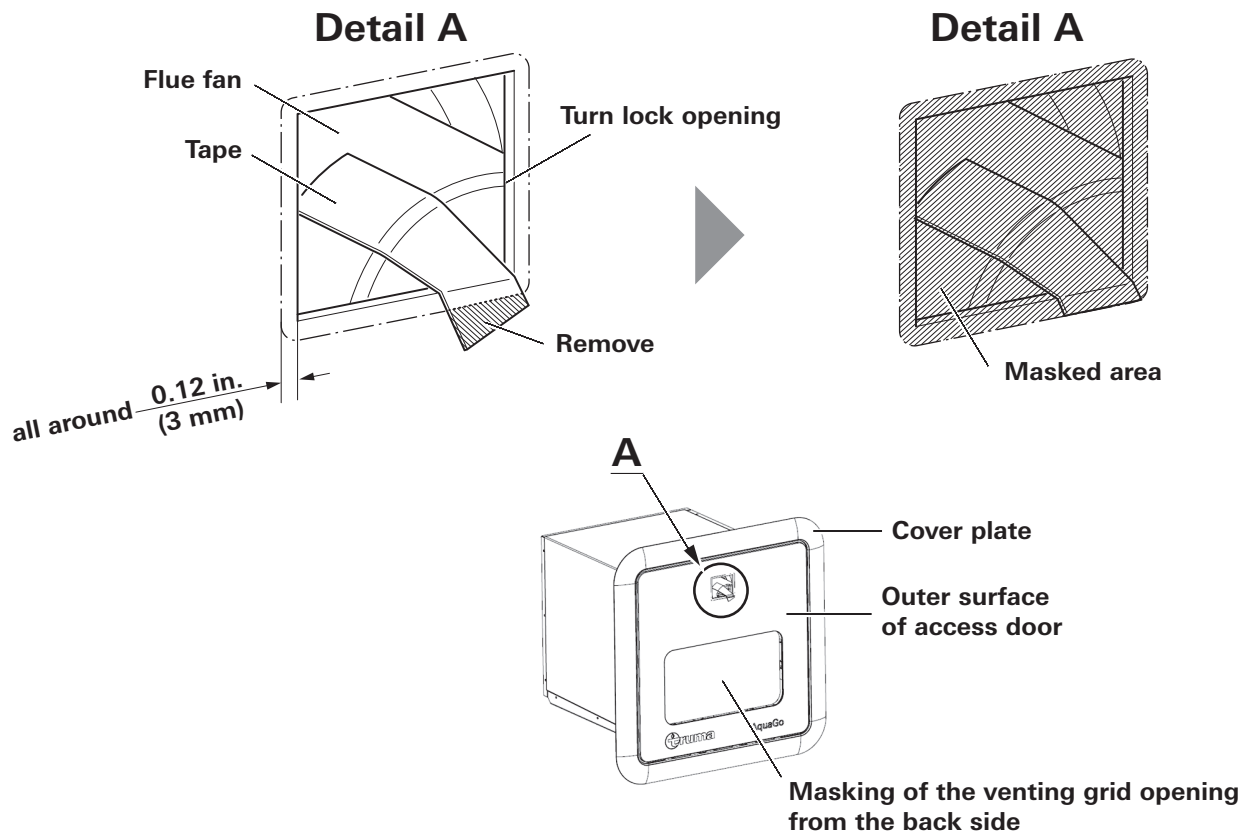

Fig. 38
### The following parts (see Fig. 38) may be painted:
- This can be done with the help of tape that joins the flue fan and the edge of the turn lock opening (see Fig. 38 for this detail).